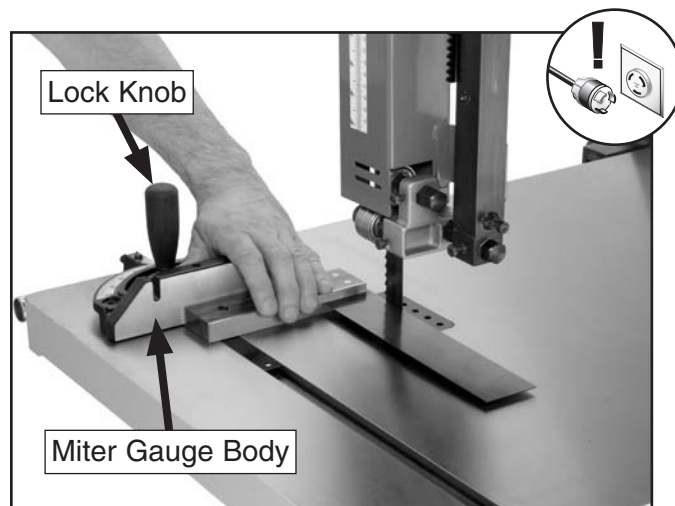

Figure 27. Aligning the miter gauge body with the blade.
4. Lay the machinist's square flat on the table and up against the blade without touching any blade teeth, as shown in **Figure 27**.
5. Without moving the square, bring the miter gauge body up to the square, as shown in **Figure 27**.